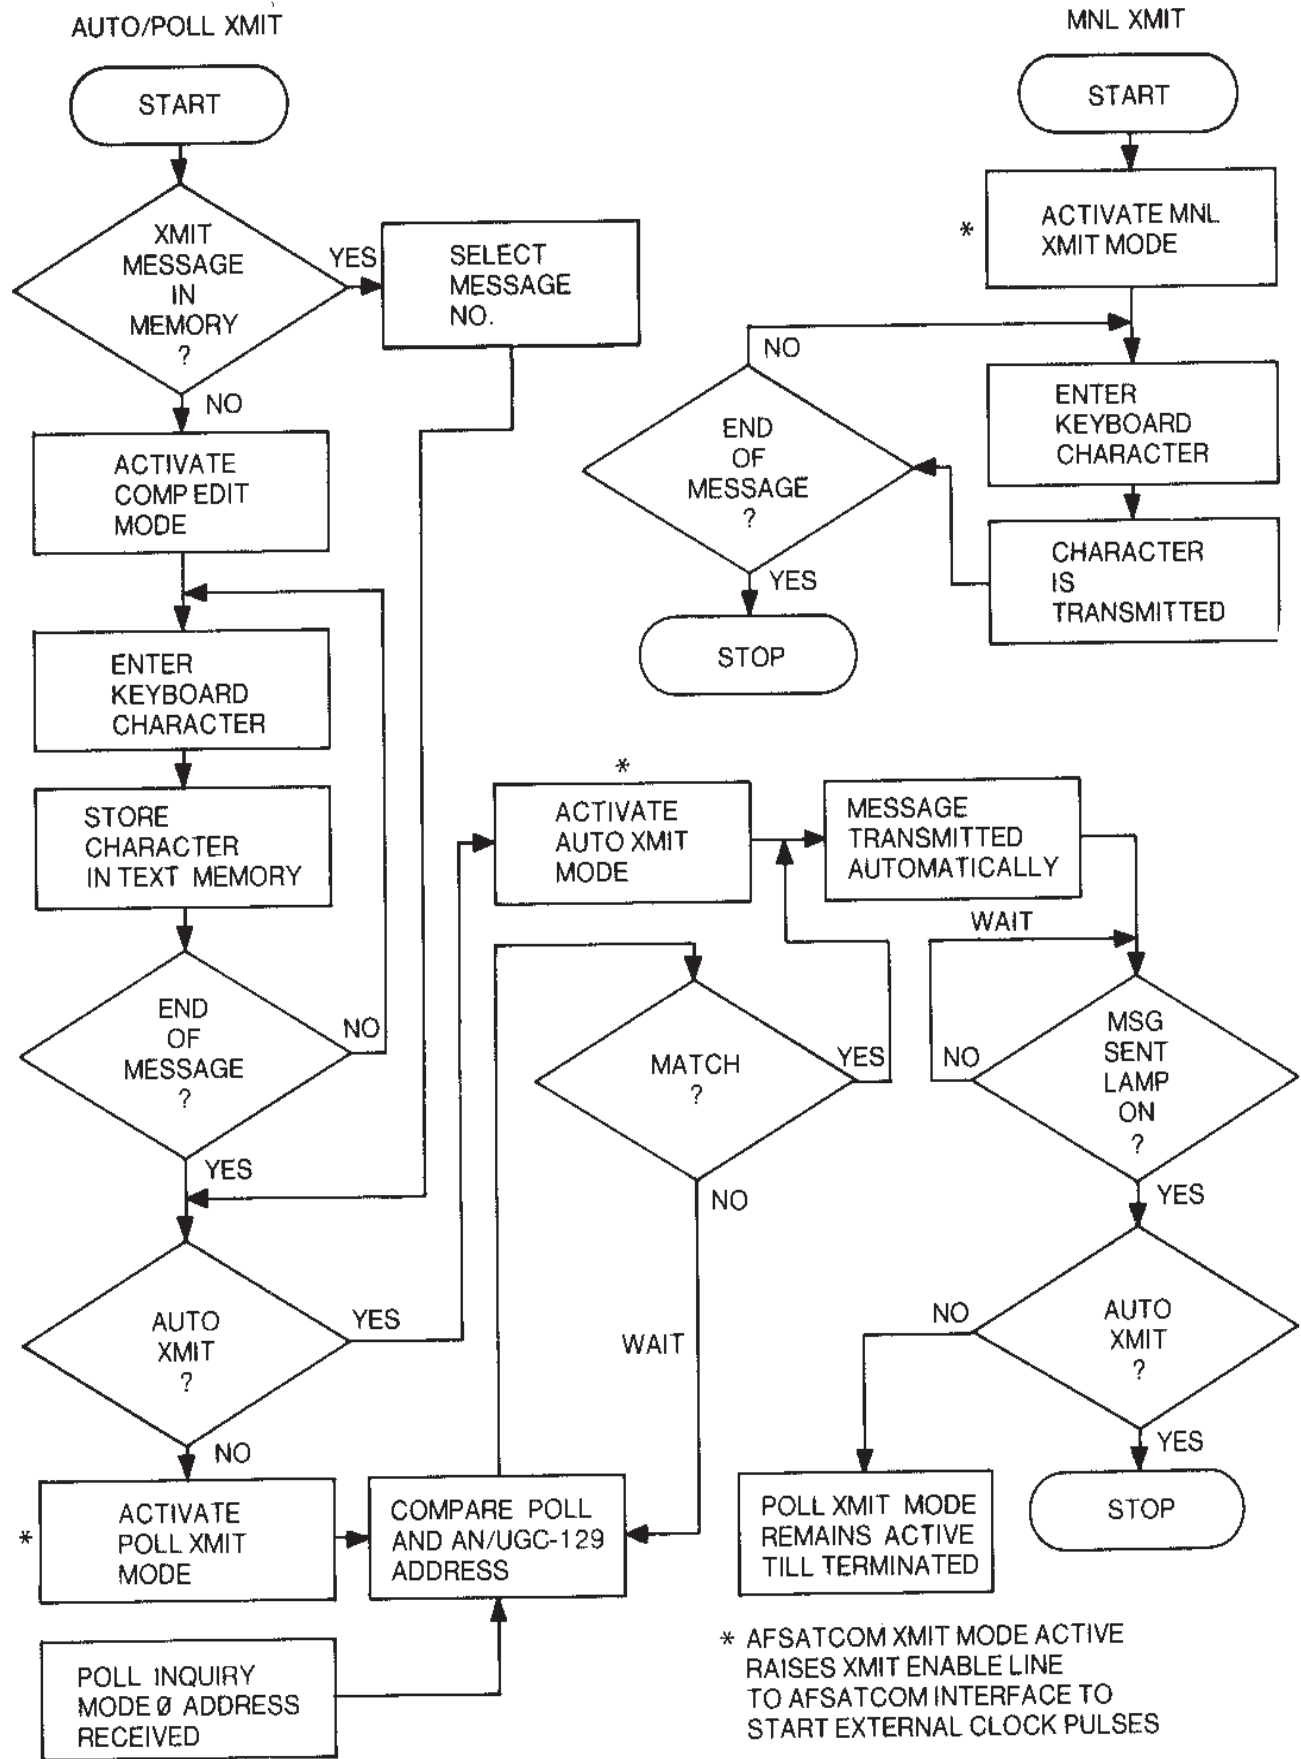

Figure 5-4. AFSATCOM Transmit Operation
e. AFSATCOM Transmit Operation. A flow chart of the AFSATCOM transmit operation sequence is shown in figure 5-4. The AFSATCOM transmit operation is the same in the MNL XMIT and AUTO XMIT mode as the standard transmit mode except AFSATCOM does not use the TD STEP function. The POLL XMIT mode is unique to AFSATCOM. The POLL XMIT mode transmits in the same manner as the AUTO XMIT mode except that transmission does not begin immediately after the POLL XMIT mode is activated. Poll transmission begins upon receipt of a poll inquiry valid address: